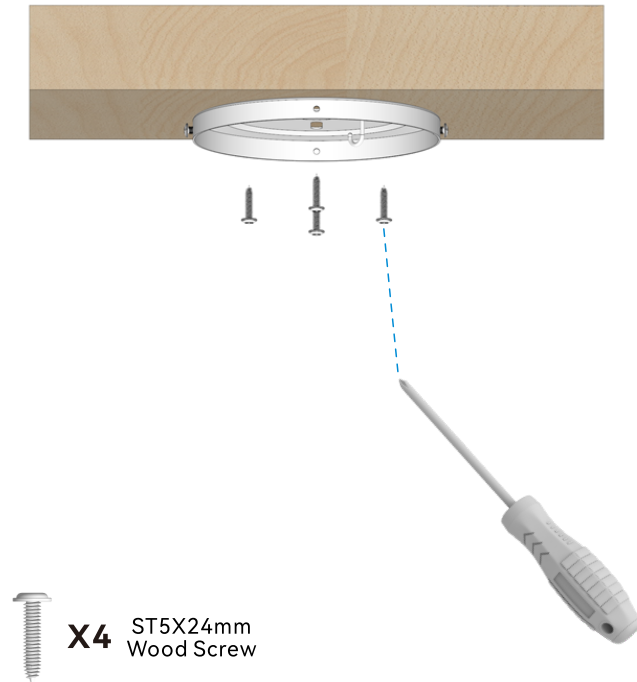

Fig. 4.1
**Option 1:** Secure the mounting plate to a wooden ceiling beam or support structure with an approved electrical outlet box using the ST5x24mm wood screws (included) as shown in Fig. 4.1.